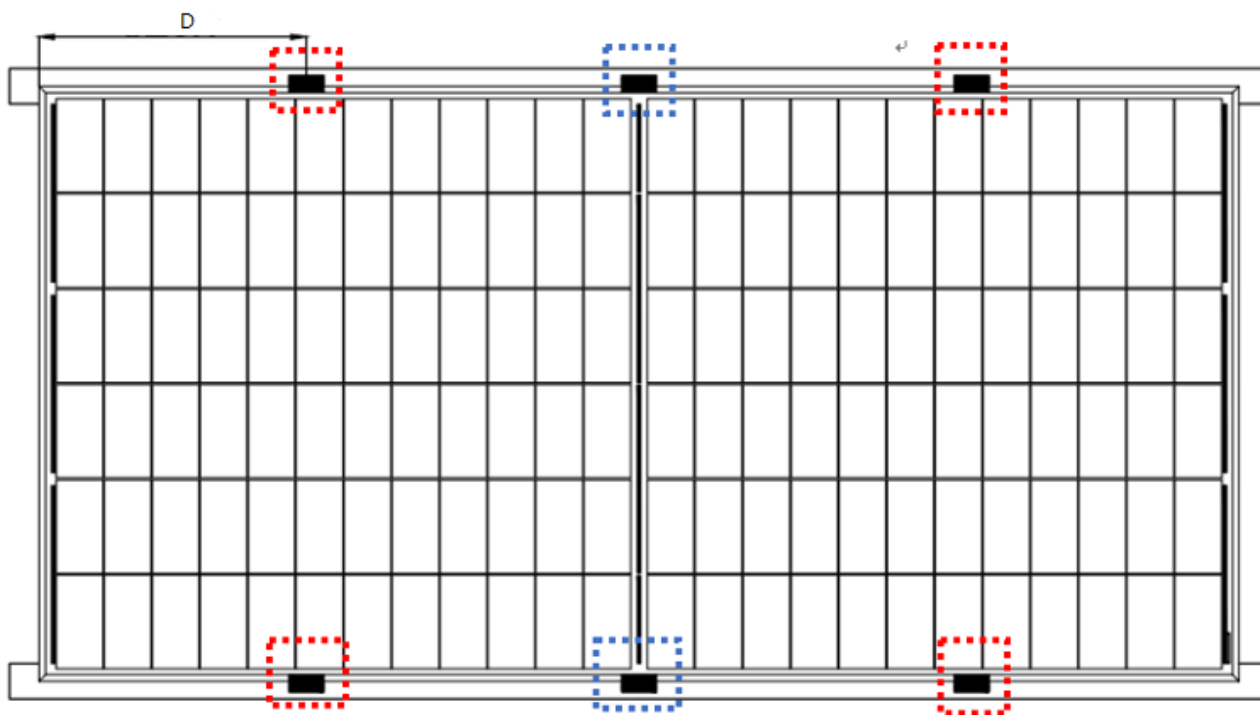
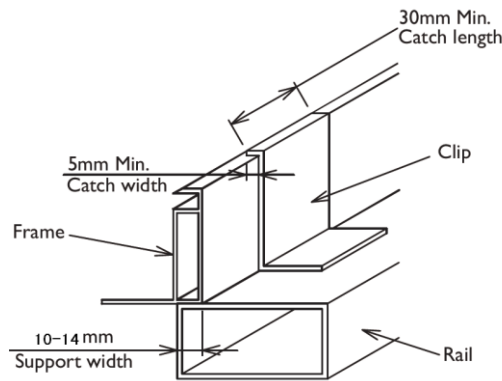

Figure 6
Figure 10
During the installation of bifacial modules, the frame and mounting rack should maintain parallel, as shown in figure 6.
- 2) As for above figure 6, the solid red rectangles indicate primary clamp installation positions and the center positions of long frames where clamps can be added for additional support.
- f) For figure 6 mounting method, the modules must be supported along the length of the edge, and should overlap the array rail by 10mm – 14mm, as shown in figure 10.